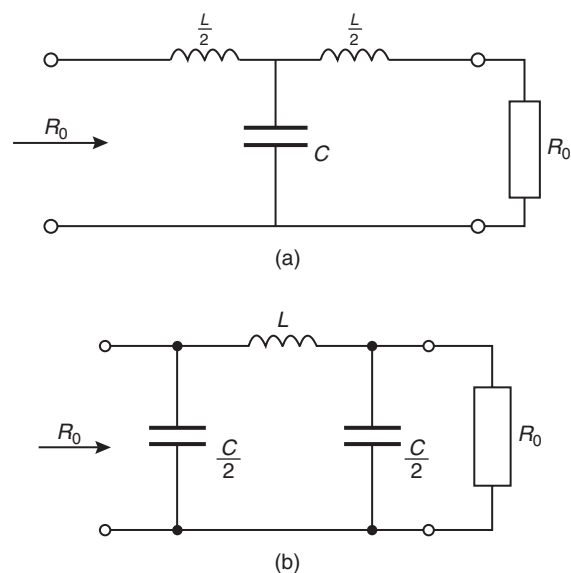
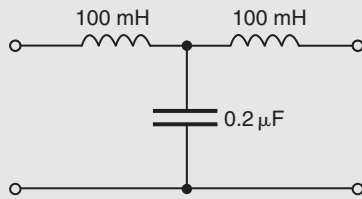
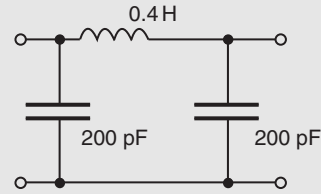
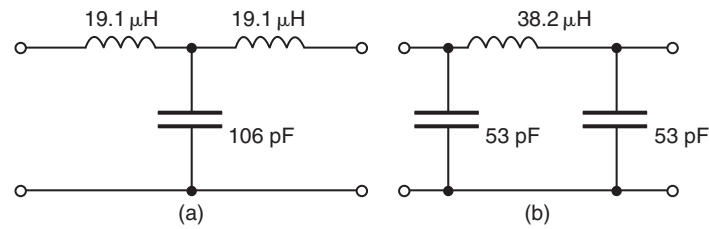

Figure 17.7
Figure 17.8
Figure 17.9
Figure 17.10
A low-pass symmetrical T-network and a low-pass symmetrical π -network are shown in Fig. 17.7. It may
Problem 1. Determine the cut-off frequency and the nominal impedance for the low-pass T-connected section shown in Fig. 17.8.
Comparing Fig. 17.8 with the low-pass section of Fig. 17.7(a), shows that:
Problem 2. Determine the cut-off frequency and the nominal impedance for the low-pass π -connected section shown in Fig. 17.9.
Comparing Fig. 17.9 with the low-pass section of Fig. 17.7(b), shows that:
- (a) A low-pass T-section filter is shown in Fig. 17.10(a), where the series arm inductances are each $\frac{L}{2}$ (see Fig. 17.7(a)), i.e. $\frac{38.2}{2} = 19.1\ \mu\text{H}$
- (b) A low-pass π -section filter is shown in Fig. 17.10(b), where the shunt arm capacitances are each $\frac{C}{2}$ (see Fig. 17.7(b)), i.e. $\frac{106}{2} = 53\text{ pF}$